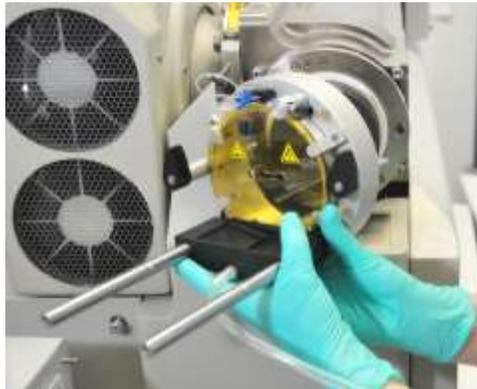

Figure 4.3 Mounting the interface ring onto the mass spectrometer
3. Align the two guide pins on the source ring with the holes on the mass spectrometer interface (Figure 4.3). Carefully push the source ring towards the mass spectrometer until it is flush against the instrument panel.